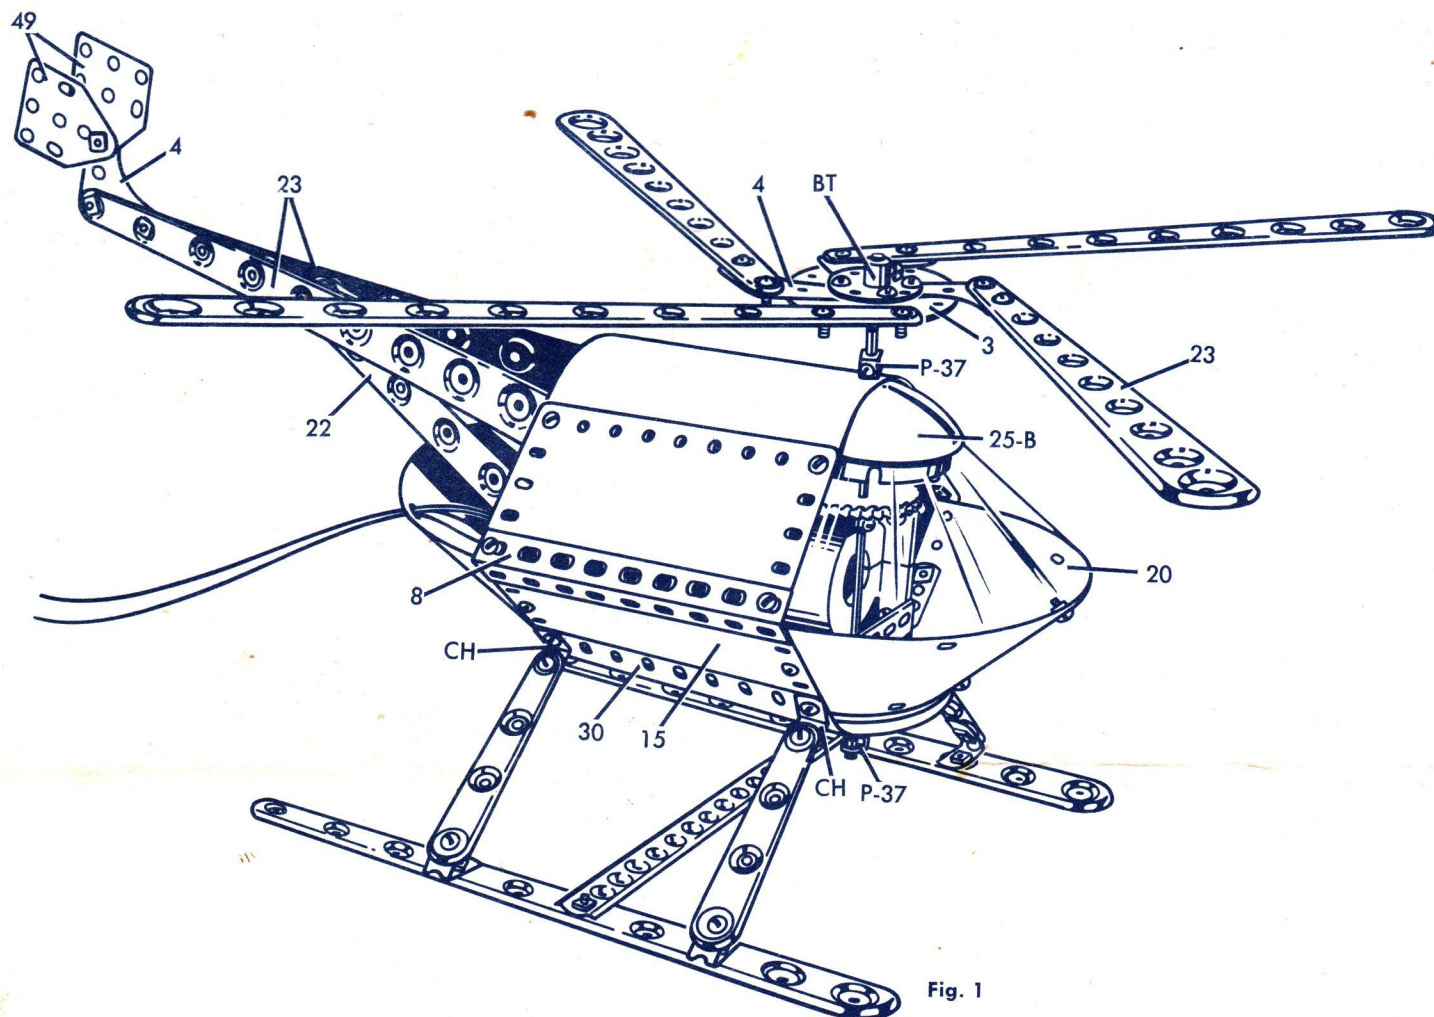
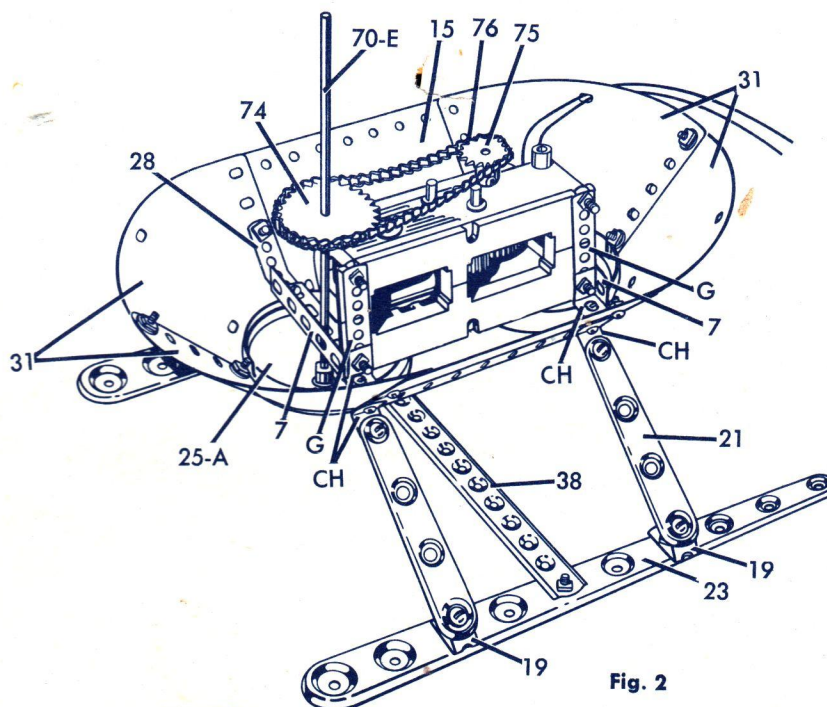

Fig. 1
Fig. 2
The first step in constructing this action model is to build the lower section as pictured in Fig. 2. The bottom of this section uses a (30) 4" curved plate fastened to the (15) 2" x 4" flat plate on each side (see fig. 1). One (25A) clear dome is used at each end, the rear one screwed through the center hole to the (30) 4" curved plate. The front dome is held in place by the (70-E) 7" axle with (P-37) collars. When installing the domes be sure that the (31) cones fit under the rim of the dome.
Referring to Fig. 1, make and install the rotating vanes. Connect the two lead wires from the motor to your Remote Control Battery Case. By switching to forward, and reverse, the vanes will rotate in either direction.